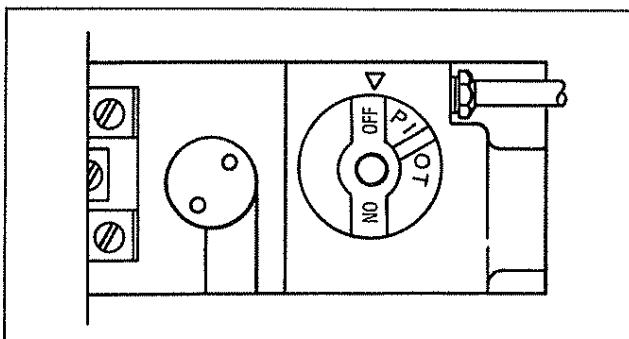

Fig. 26. Gas valve control knob.
3. Turn switch to "OFF". (See Fig. 26.)
2. Turn switch to "OFF". (See Fig. 26.)